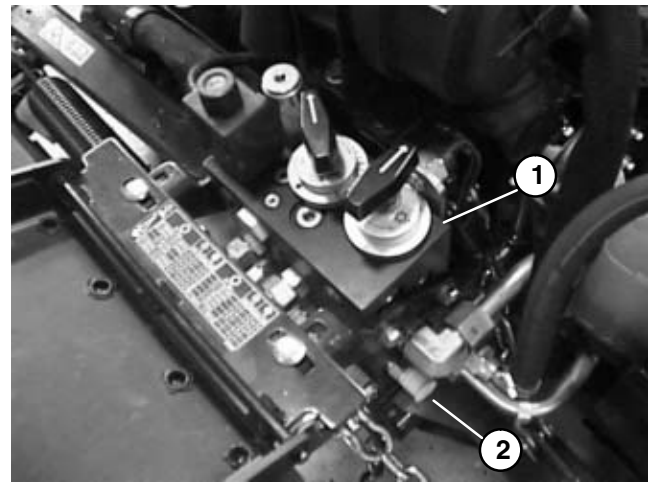

Figure 18
4. Connect pressure test gauge with a hydraulic hose attached to the reel circuit test port on the hydraulic manifold (Fig. 18). Make sure gauge hose is long enough so the operator can read gauge while driving the machine.